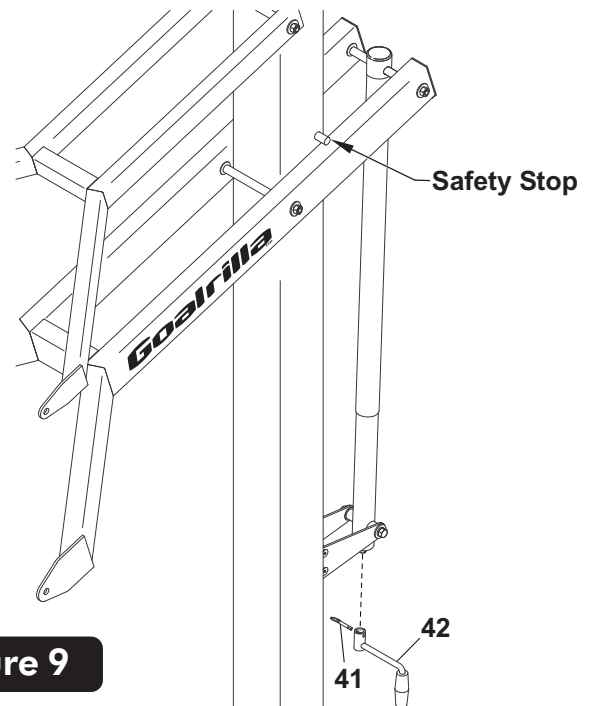

Figure 9
12. Slide Actuator Handle (#42) onto shaft on the bottom of Actuator (#16). Line up hole in shaft with hole in Actuator Handle and insert Pull Pin (#41) to secure. See **Figure 9**.